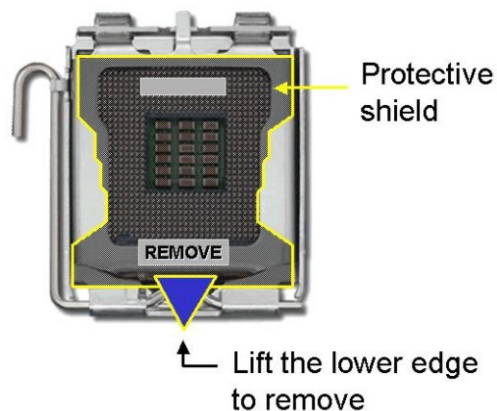

Figure 5-2: Remove the CPU Socket Protective Shield
Step 1: Remove the protective cover. Remove the black protective cover by prying it off the load plate. To remove the protective cover, locate the “REMOVE” sign and use your fingernail to pry the protective cover off. See **Figure 5-2**.